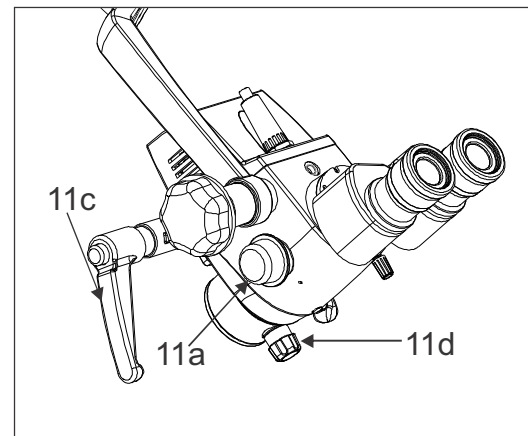

Fig. 13
Setting up of magnification (Ref. Fig. 13)
- 2 Fine focusing is done by knob provided on CMO shown as (11d) in fig. 13